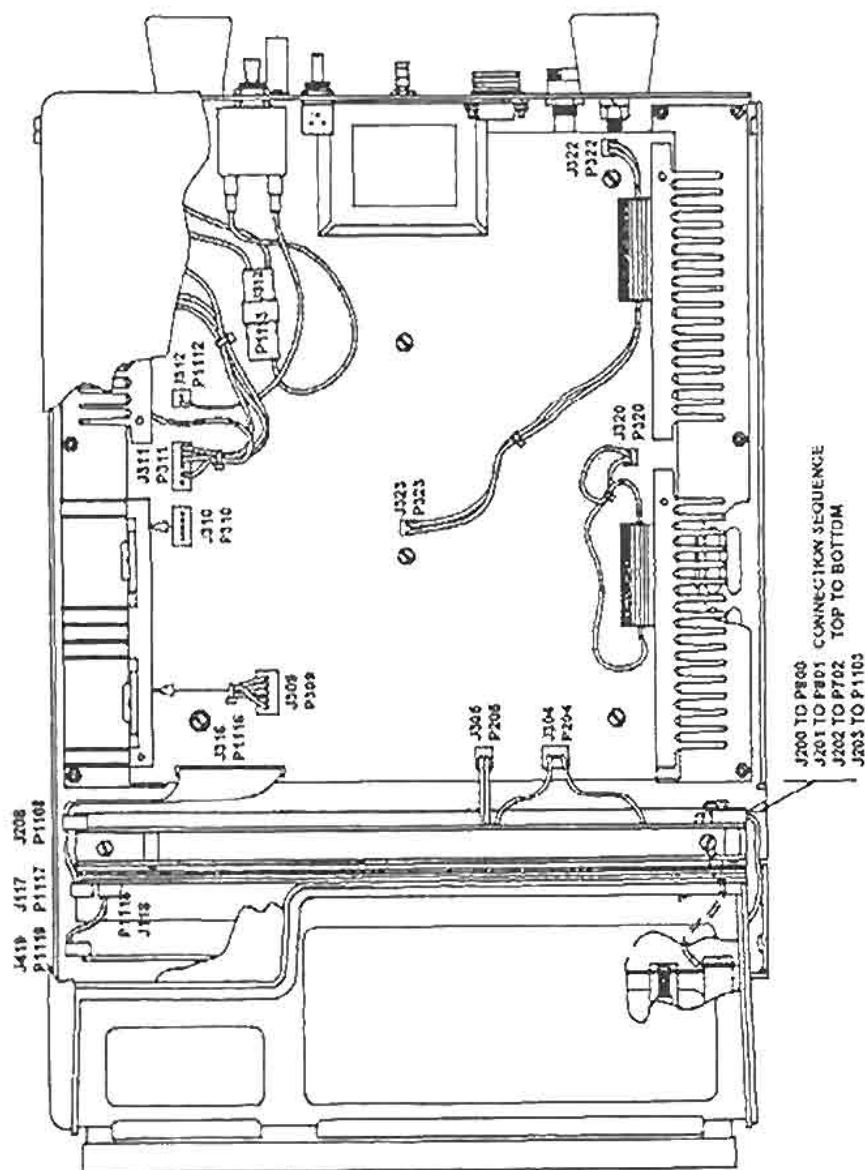
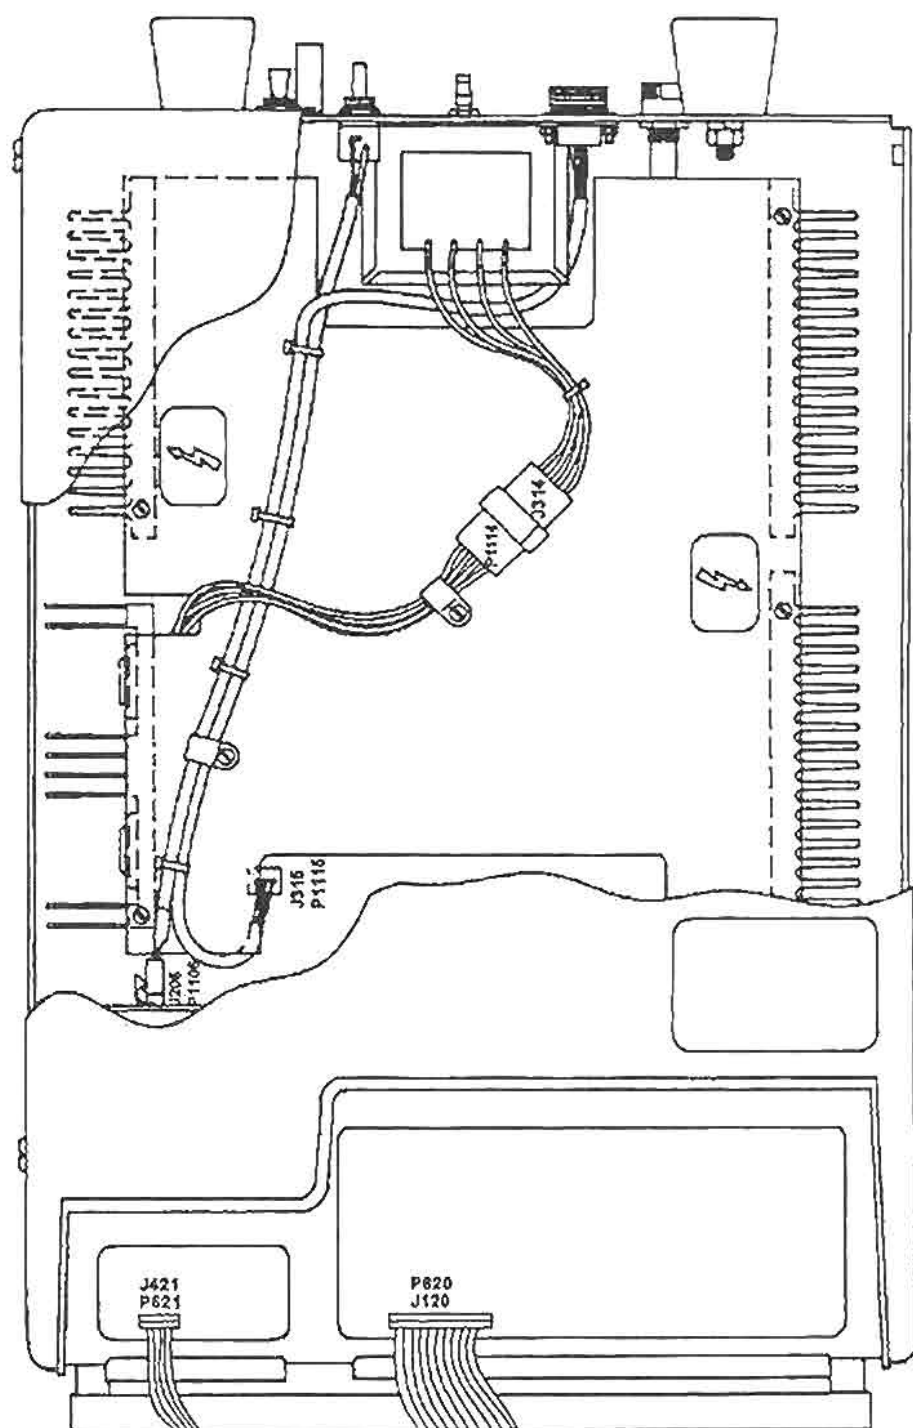

Figure 3-30. Connectors - view 1.
Figure 3-31. Connectors - view 2.
- (3) Remove the top cover by gently rocking it back and forth while simultaneously pulling it upward. Set it aside.
- (4) Disconnect the following electronic plugs (fig 3-30 and fig 3-31).
- (5) Remove the two slotted screws fastening the interface assembly to the base assembly. Set them aside.
(1) Position the interface PCB and RF shield together.
(2) Reinstall the five nylon slotted screws to fasten the PCB to the RF shield.
(3) Position the interface assembly mounting holes to align with the base assembly mounting holes.
(4) Insert one of the slotted screws into the crimped terminal lug of the green/yellow electrical ground wire and then insert the screw through the mounting hole. Reinstall the nut and then reinstall the second screw and nut to fasten the interface assembly to the base assembly.
(5) Reconnect the following electronic plugs. (Refer back to figures 3-30 and 3-31.)
(1) Verify that the electrical power toggle switch, located on the back panel of the ES apparatus, is at the "O" symbol. Also verify that the electrical power cord is disconnected from the electrical receptacle.
(2) Remove the four slotted screws and lockwashers fastening the top cover of the ES apparatus. Set them aside.
(3) Remove the top cover by gently rocking it back and forth while simultaneously pulling it upward. Set it aside.
(4) Remove the slotted screws fastening the two plastic cable clamps to the plastic electronics cover.
(5) Remove the four slotted screws fastening the plastic electronics cover to the heat sinks. Set them aside.
(6) Pull the plastic electronics cover out to the side below the cable assemblies. Set it aside.
(7) Disconnect the following electronic plugs. (Refer back to figures 3-30 and 3-31.)
(3) Reconnect the following electronic plugs (Refer back to figures 3-30 and 3-31).